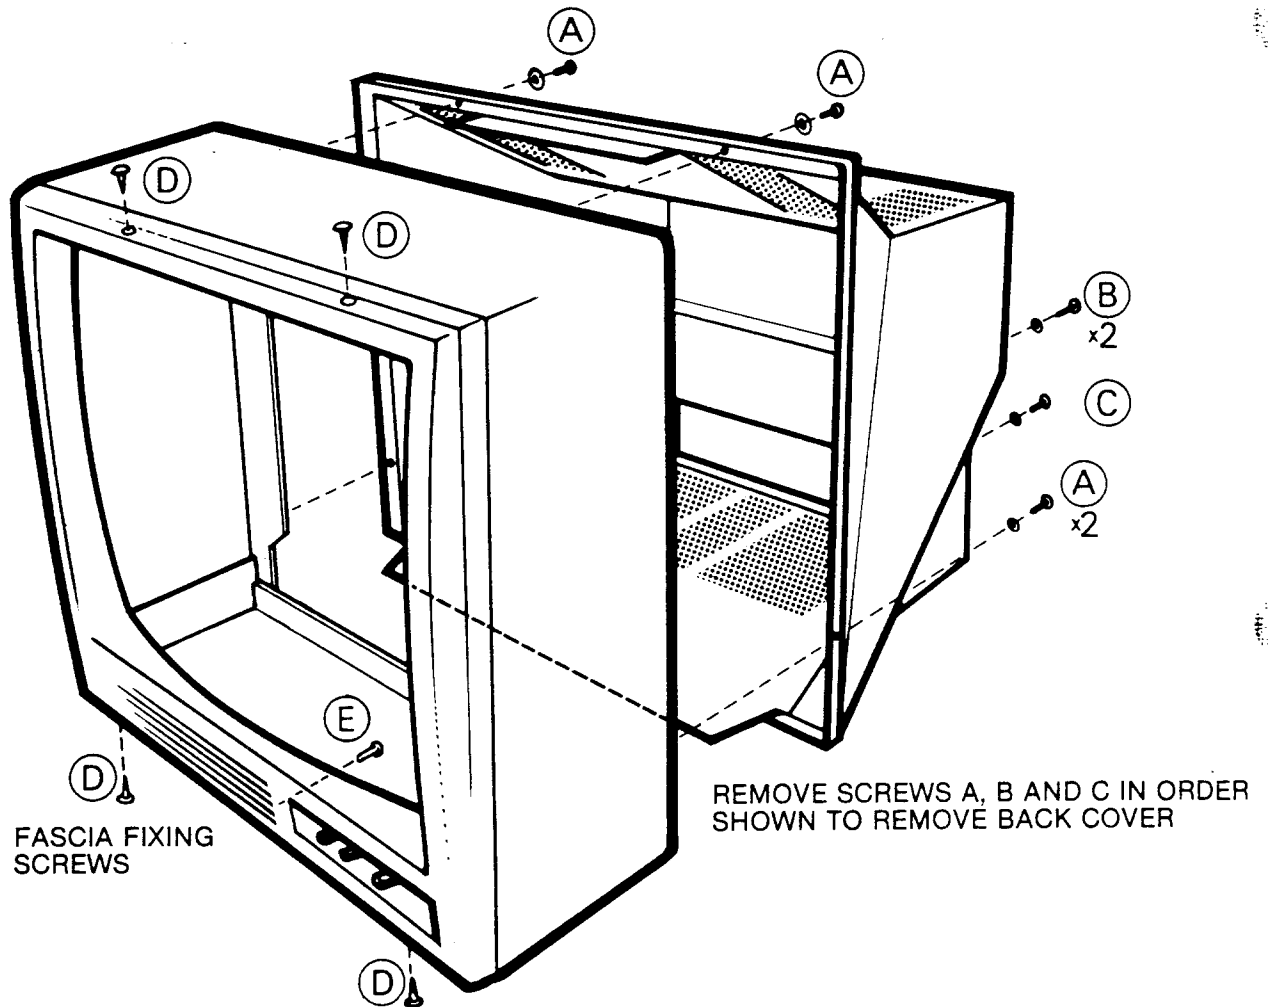

Fig E2 E SERIES FIXING SCREW LOCATIONS
2. See Fig E2, E Series: Fixing Screw Locations
2. Refer to Fig E2, E Series: Fixing Screw Locations.
- a) Detach: 4 x countersunk fixing screws (D) from the Cabinet Front moulded fascia.
- b) Detach: 1 x fixing screw (E), located through the Chassis Front into the inside face of the Cabinet Front moulded fascia.